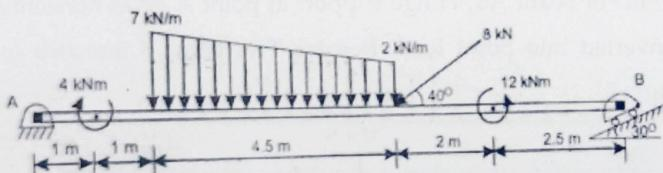

Fig 2.66
- 3) The beam AB is loaded by forces and couples as shown in fig 2.66. Find the reaction force offered by the supports to keep the system in equilibrium. (Ans: $R_A=19.74\text{kN}$, $R_B=10.82\text{kN}$)